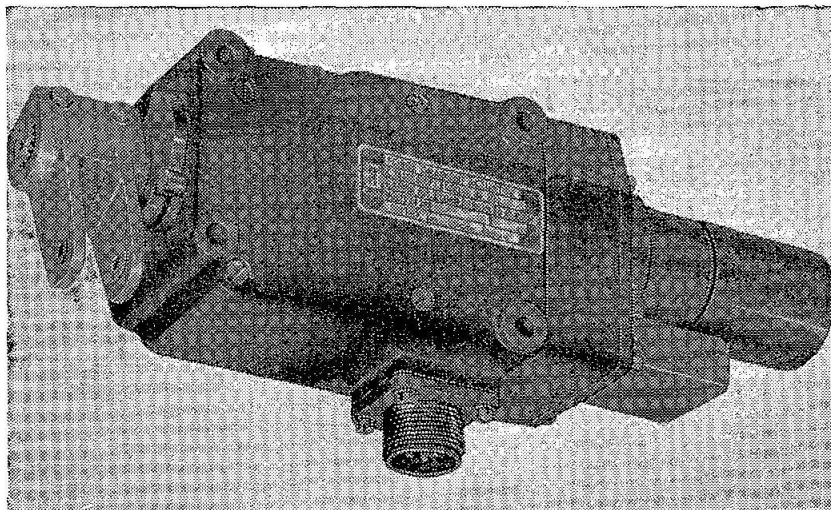

Fig. 1. Type C1401 actuator
2. The actuator (*fig. 1*) consists of a light alloy case containing a reversible d.c. motor with brake, reduction gear train, a solenoid operated clutch incorporating a centrifugal